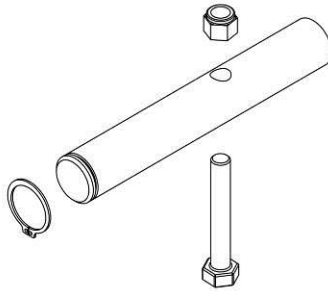

Figure 11
3. Slide the three axle pieces together and take a measurement. As shown above in figure 11. Measure the axle; subtract the # determined in step 1. This will give you the amount you will need to cut off the center section of pipe.